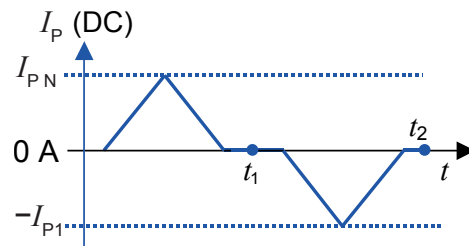

Figure 20: Current cycle used to measure magnetic and electrical offset (transducer supplied)
- or in a known magnetization state, like in the current cycle shown in figure 20.
Using the current cycle shown in figure 20, the electrical offset is: